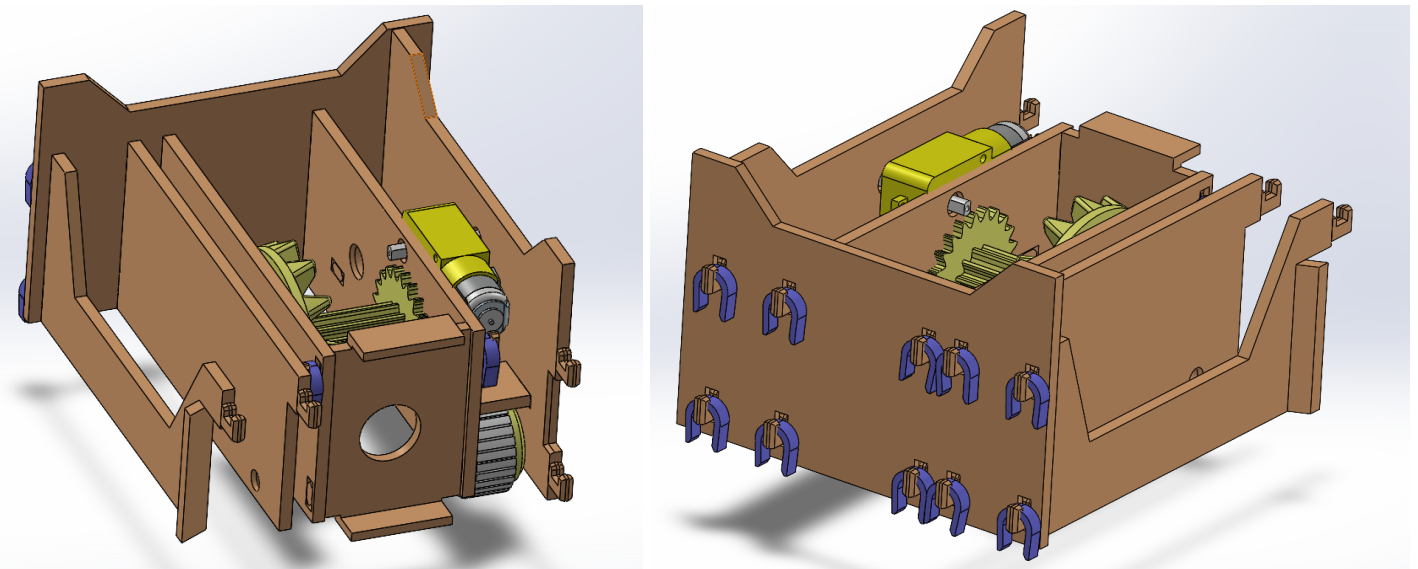

FIGURE 7
STEP 7: In this step we take the walls numbered 12 and 13, we put them through the back wall numbered 2 which is installed in **STEP 6** as seen in figure 7, after that we pin them with the same thin purple pinners.